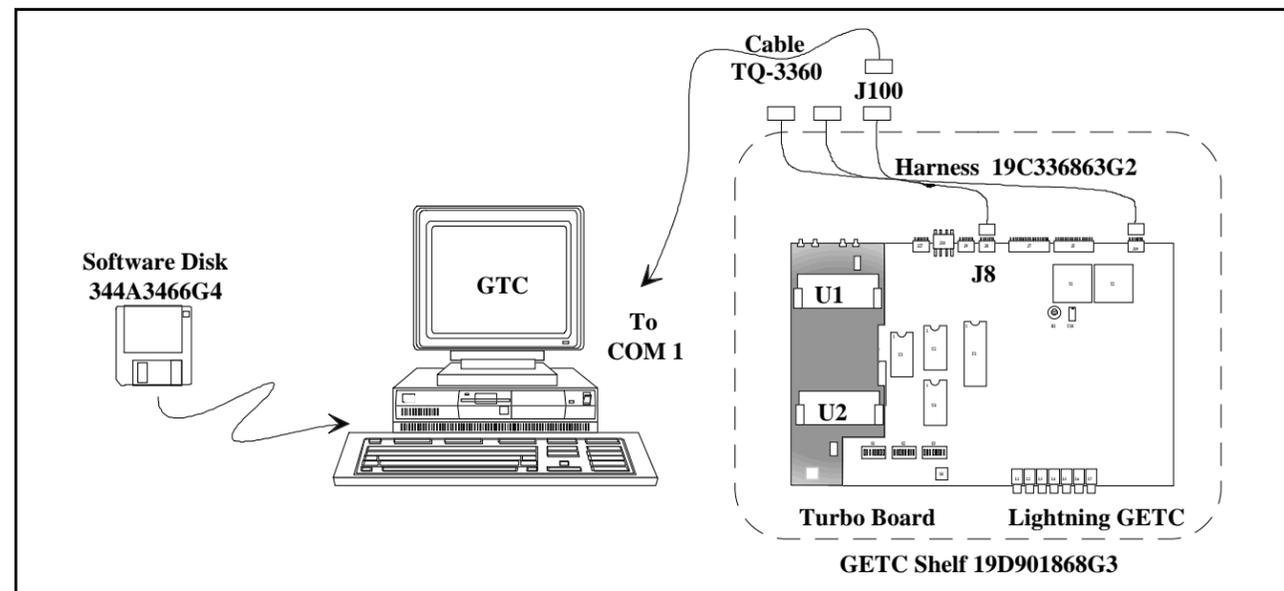

Figure 8 - Personality Programming
1. Connect the TQ-3360 programming cable from the PC's serial port connector (COM1/COM2) to the SCAT GETC Shelf connector J100 (see Figure 8). (A DB-25 to DB-9 adapter may be needed.)